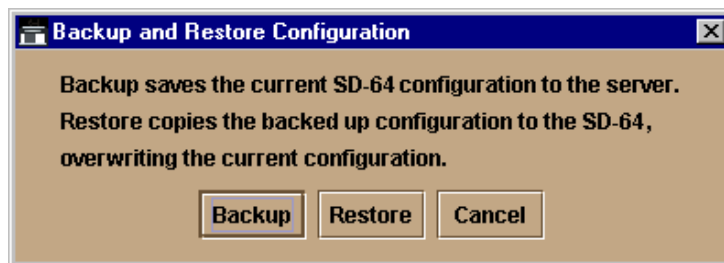

Figure 3-31: Backup and Restore Configuration Dialog Box
3. At the navigation control panel, select Backup & Restore Configuration from the Maintenance menu. The Backup and Restore Configuration dialog box (Figure 3-31) displays.